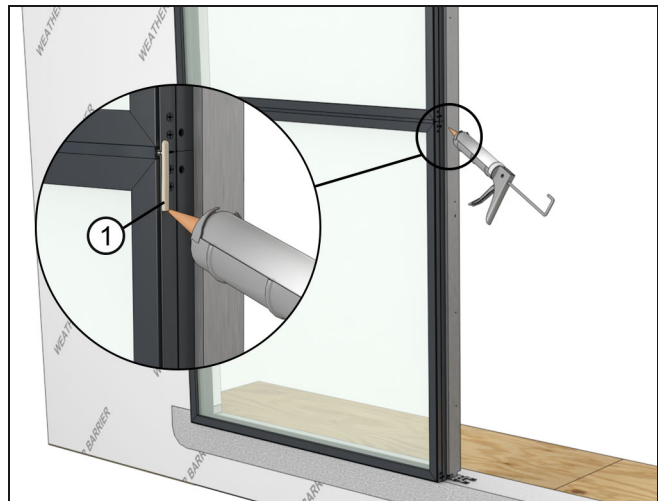

Figure 52
18. Apply sealant to the exterior bottom portion of the first assembly (along the B1 frame). Run the sealant just past the mull. See Figure 52.